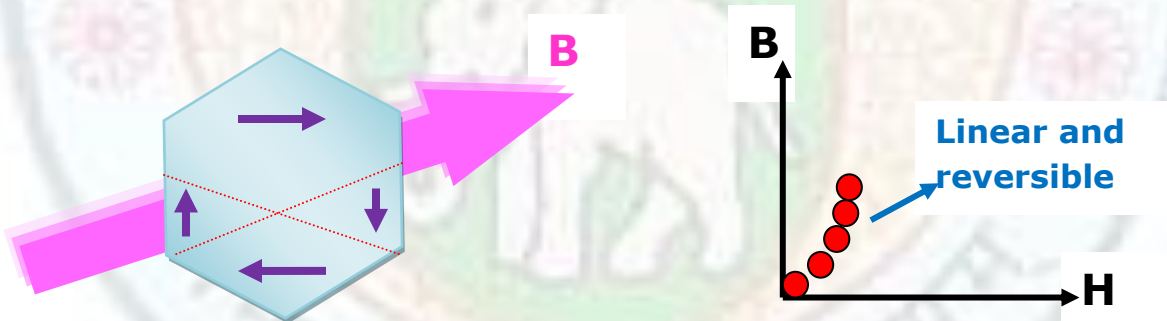

Figure 5
2. The domains which have their magnetic moments best aligned in direction of the applied field start growing in size at the cost of other randomly oriented domains. The material starts getting magnetized. As can be seen in figure 5, the **B-H** curve is linear and the effect of external magnetic field is reversible in this stage.